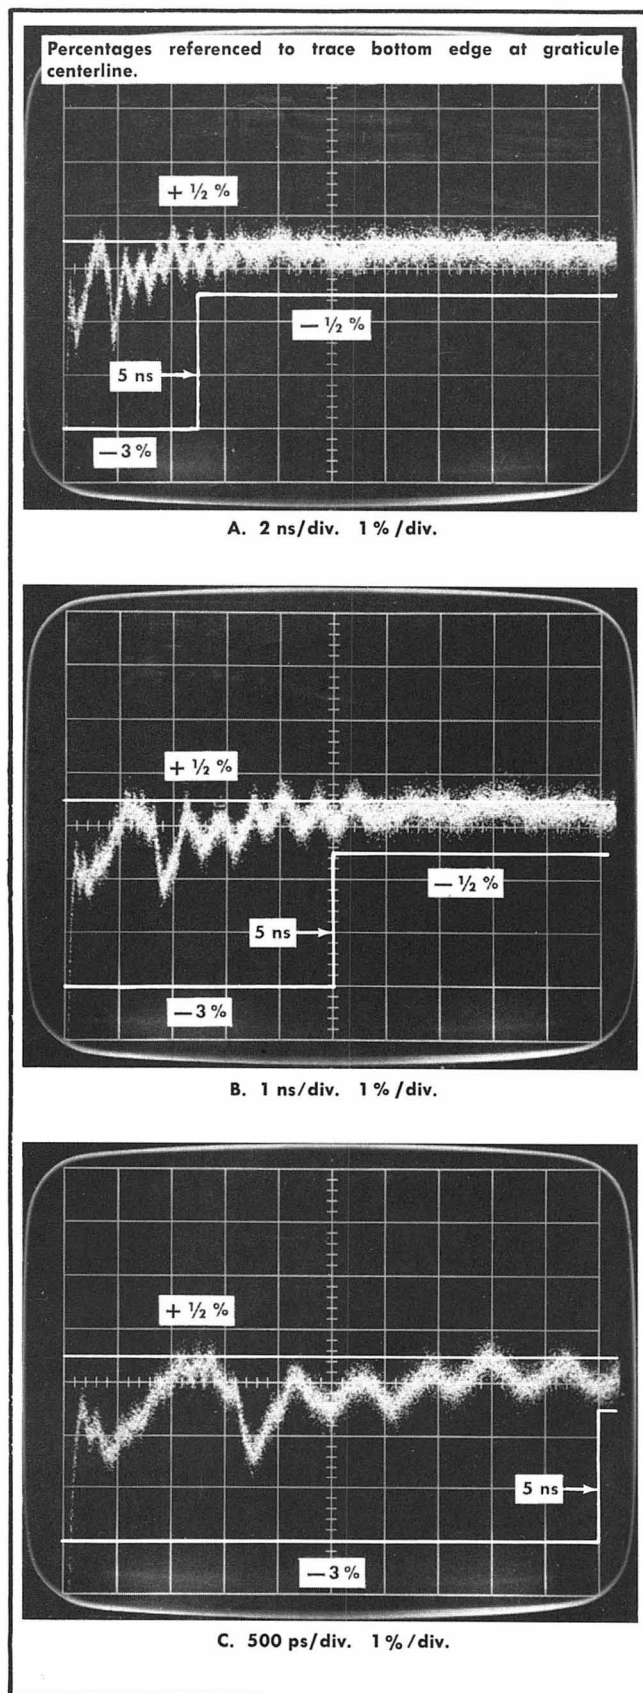

Fig. 5-11. Check of pulse flatness deviation. Step 8.
b. Time-position the display so the pulse rise is about a trace width inside the graticule edge. Check along the trace bottom for deviations as listed in the requirements, and as shown in Fig. 5-11.
Change the sweep rate as listed under the three parts of Fig. 5-11, and check for deviations as shown.